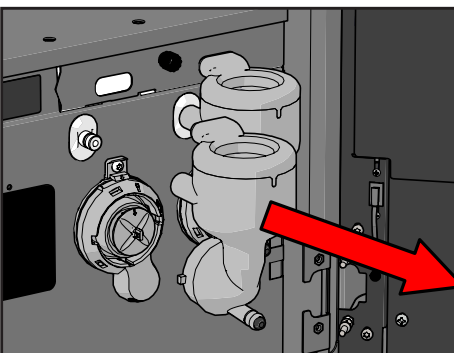

Figure 44.
10. Pull the mixing bowl and the suction ring forward to remove them from the motor (see Figure 44).